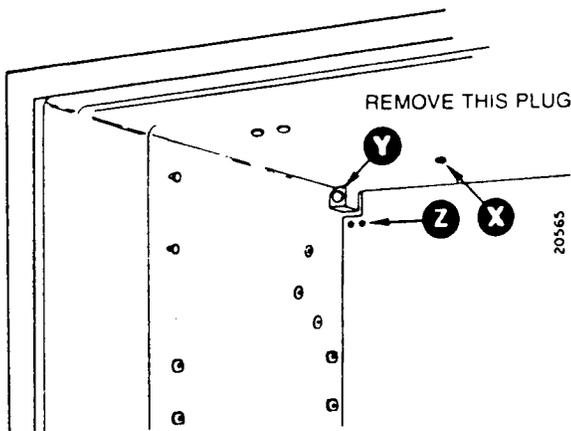

Figure 3. Inside view of freezer compartment
4. Remove screw 'Z' from the upper left corner of the freezer (see figure 3). Save the screw for use later.
6. Using a table knife or similar instrument, pry out plug button 'Y' (see figure 3).